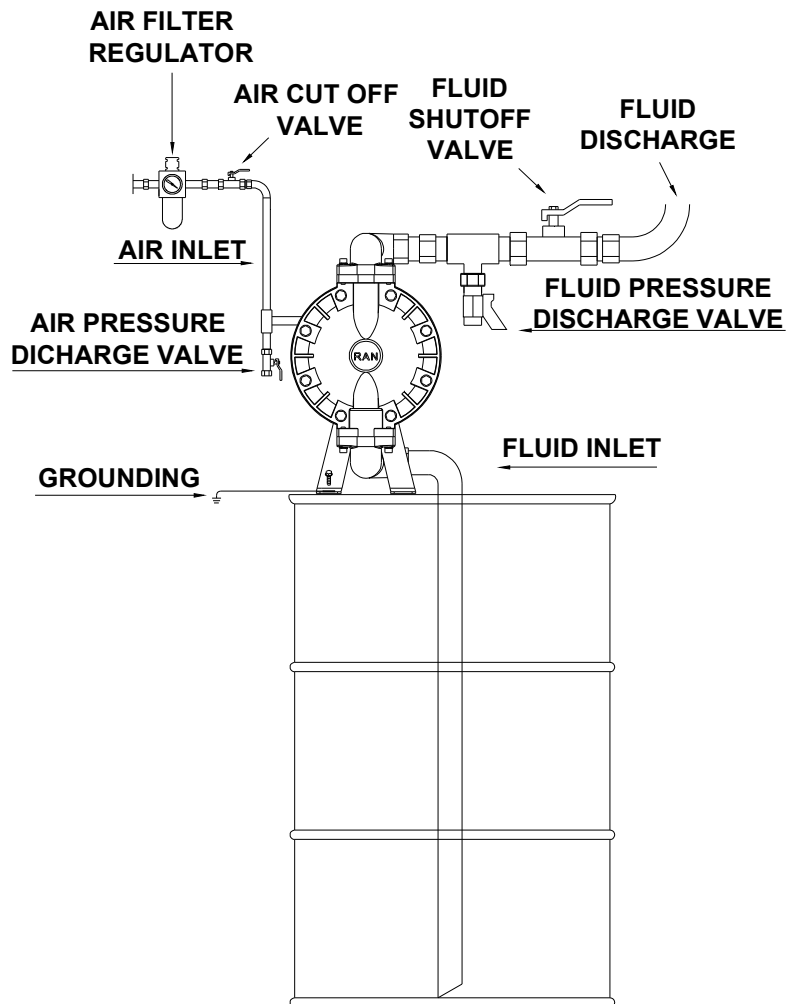

Figure 8- Typical barrel top installation
A typical connection scheme of diaphragm pump is shown at Figure 8. Refer to your RAN™ Pump distributor for detailed information.
A bleed-type master air valve is required in your system to relieve air trapped between this valve and the pump. Trapped air can cause the pump to cycle unexpectedly, which could result in serious injury, including splashing in the eyes or on the skin, injury from moving parts, or contamination from hazardous fluids. See Fig. 8.
1- Compressed air line accessories: Refer to the Figure 8 for the connection scheme. Fix these accessories to the wall or to a bracket.
2. With a 5 mm allen key, remove the four screws (13), air valve body (14), and gasket (15). See Fig. 8.
3. You will see two taps (10) at the sides of the valve. Push a tap with your finger until the valve core (12) comes out.
4. Change the z-rings (11) on the valve core (12).
5. Make sure you do not damage the z-rings (11) when inserting valve core (12) into the valve body (14). You can use your finger nail at this operation. Before inserting the core to valve body, grease it slightly with a suitable oil.
6. Reassemble the parts in the reverse order. Make sure that both taps (10) are in a vertical position and parallel to the valve body (14) sides.